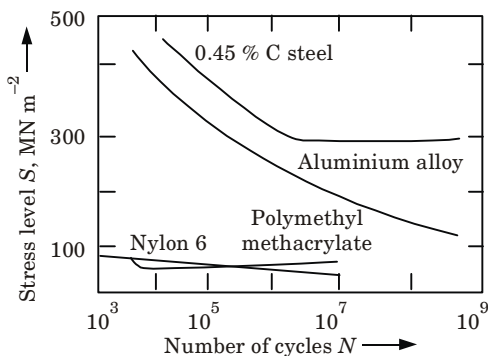

Fig. 6. The *S-N* curves for different materials.
3. Typical *S-N* curves obtained by means of the rotating beam machine are shown in the (Fig. 6).
4. (Fig. 6) shows the number of cycles of stress which a metal can endure before failure increases with decreasing stress.